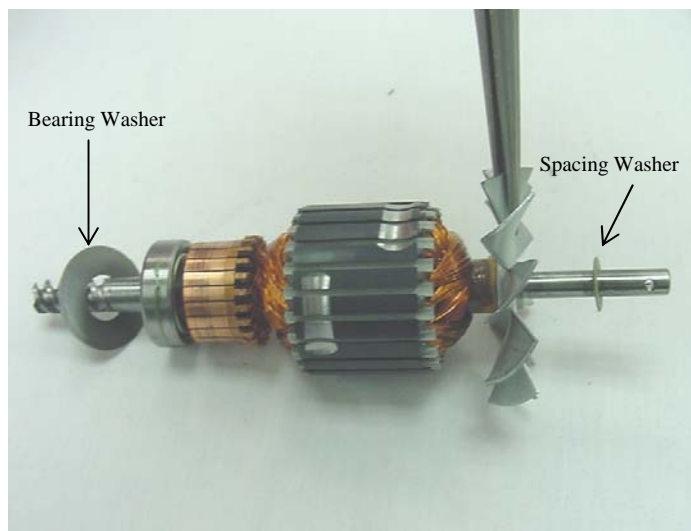

Fig. 38 Check the blades of the armature ventilating fan and straighten if bent.
G. Check the ventilating fan. Straighten the blades if they are bent (Fig. 38).